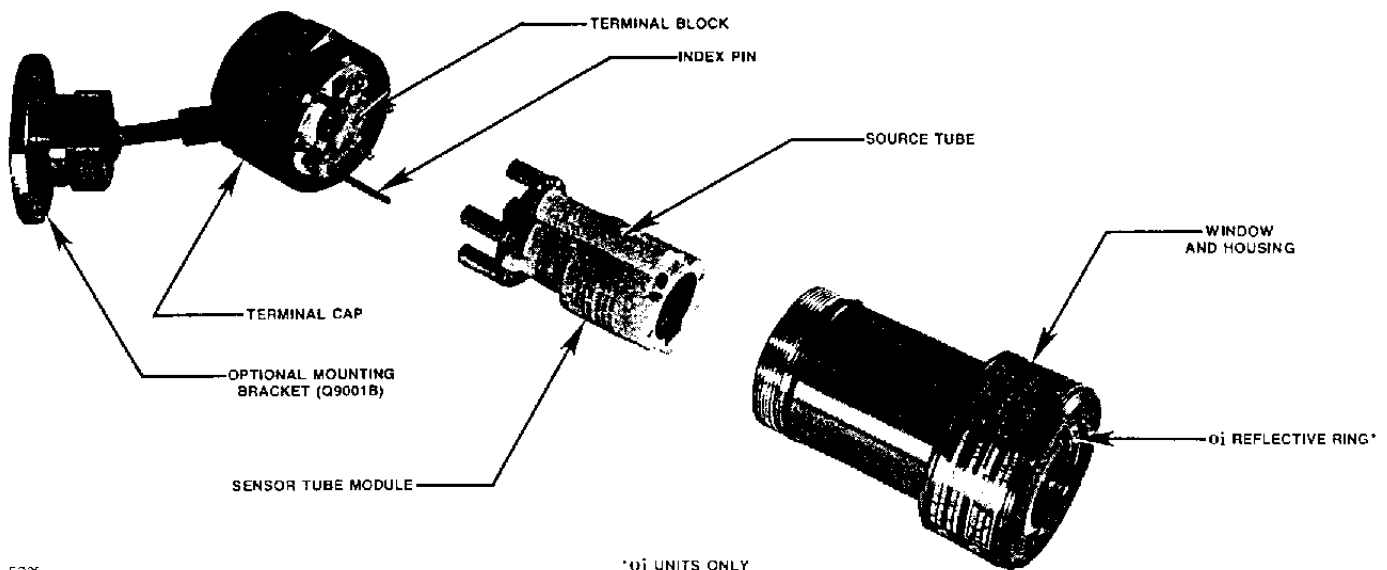

Figure 18—C7050 Detector Assembly
2. Disassemble the detector enclosure by turning the housing cover counterclockwise. If the detector is equipped with a cover locking device, loosen the clamp and disengage the "catch" from the terminal cap. This locking cover feature is required for equipment approved by BASEEFA and PTB. The tool required for the BASEEFA clamp is a 5/32 inch hexagonal (Allen) wrench. For the PTB clamp, a triangular m4 (7 mm) wrench (DIN 22417) must be used. See Figure 18 for an illustration of the detector assembly.